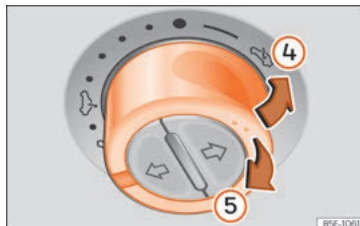

Fig. 16 On the internal cover of the roof: press the button and pull on it to raise and lower the sunroof.
- Lift: Push the switch to position » » » Fig. 16 ④. For an intermediate position, hold down the switch until you reach the desired position.
- Lower: pull the switch to position » » » Fig. 16 ⑤. For an intermediate position, hold down the switch until you reach the desired position.